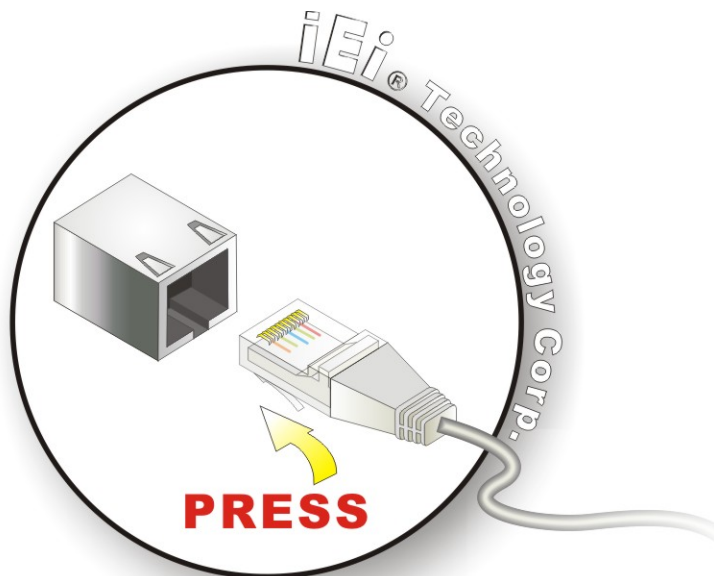

Figure 5-14: LAN Connection
Step 2: **Align the connectors.** Align the RJ-45 connector on the LAN cable with one of the RJ-45 connectors on the NANO-LX. See **Figure 5-14**.